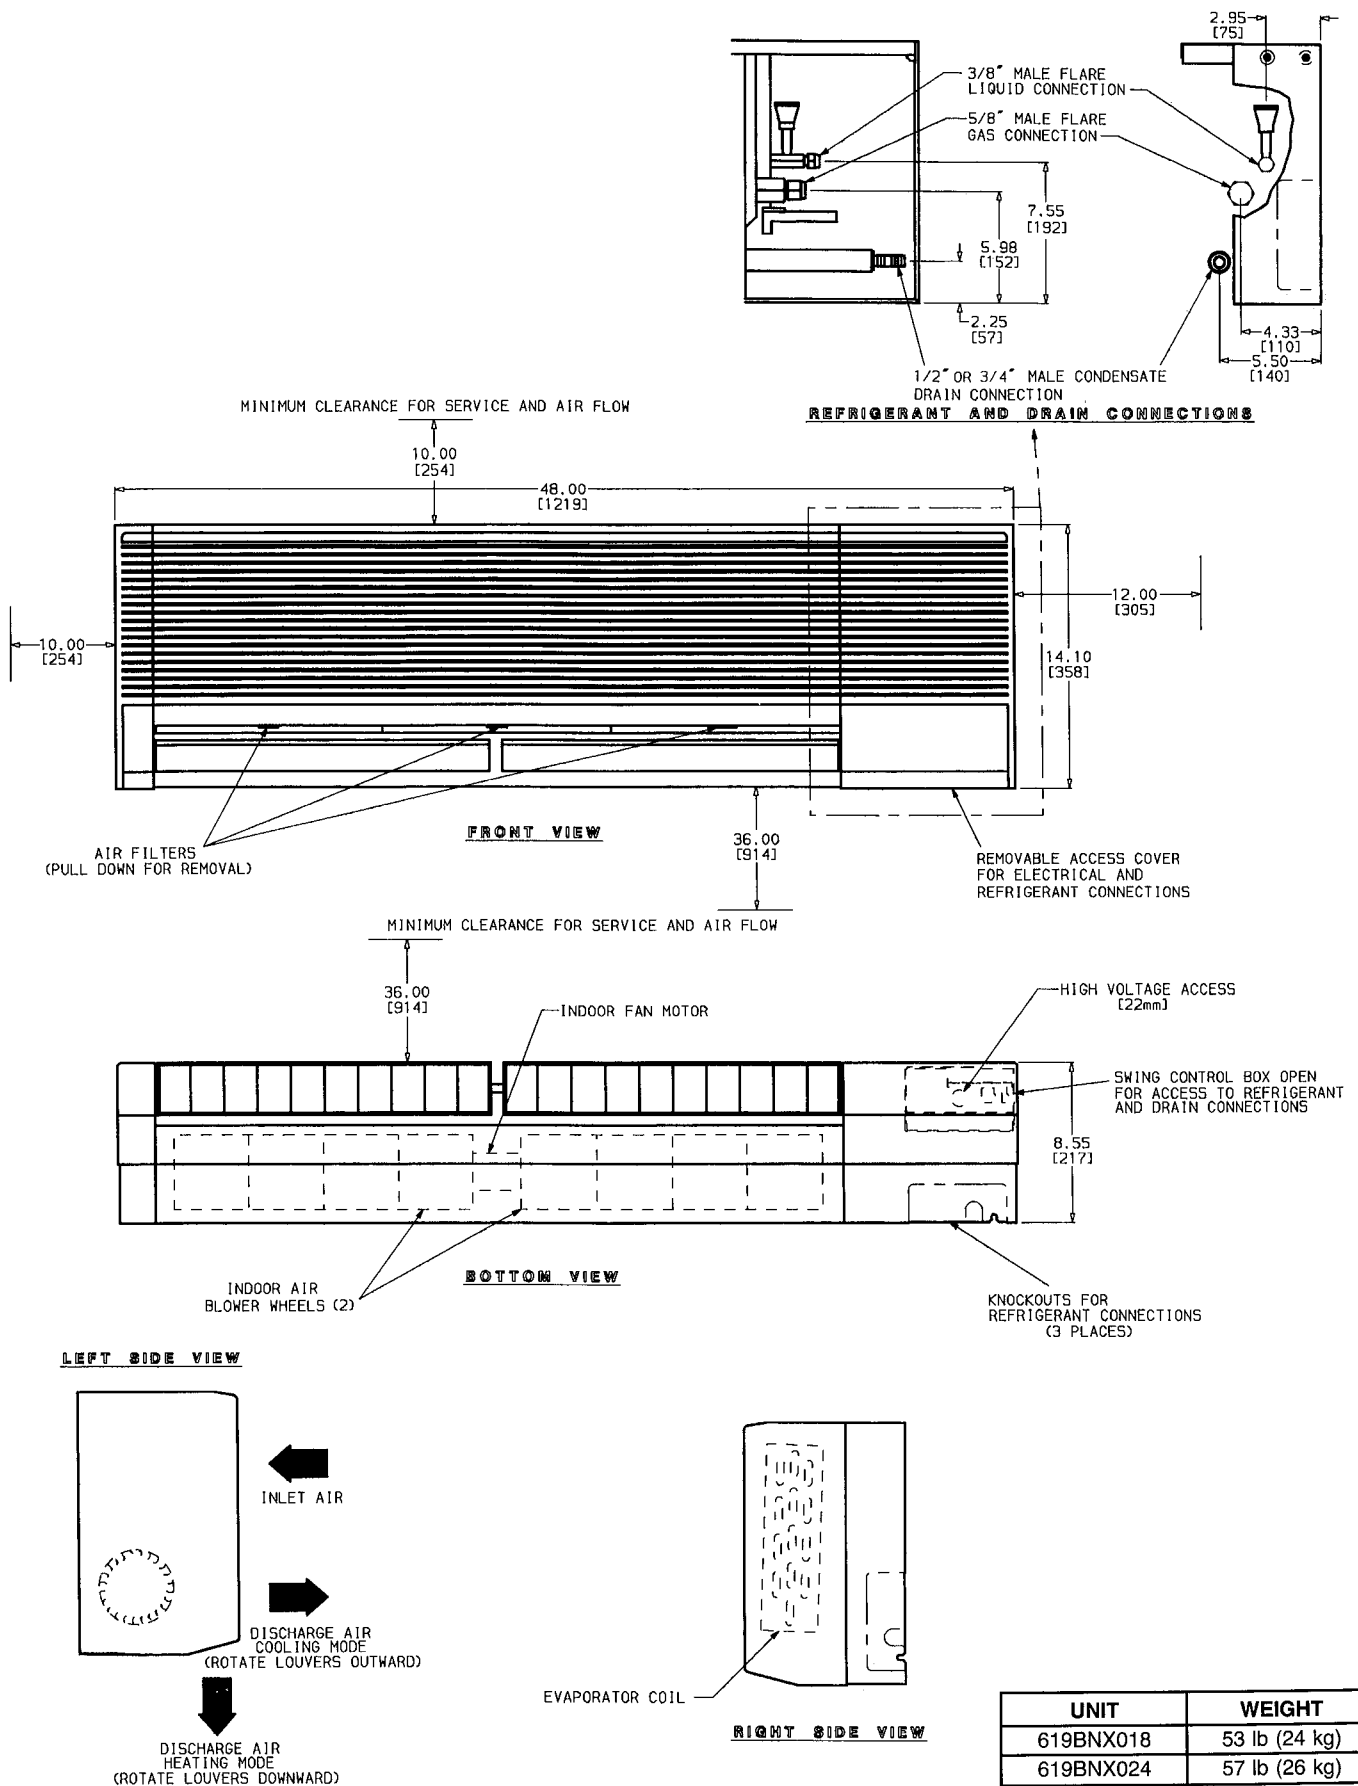
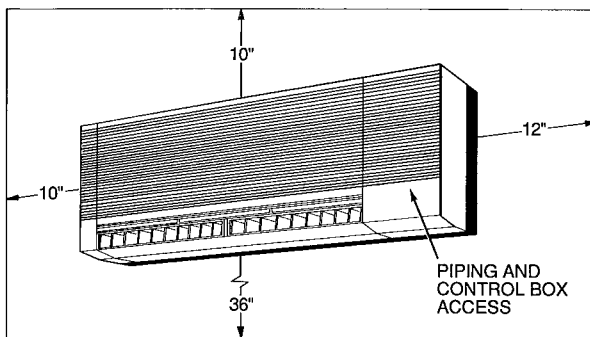

Fig. 2 – 619BNX018, 024 Dimensional Drawing
Fig. 3 — Minimum Required Clearances
There are several ways the unit may be installed to different types of wall construction. These instructions do not cover all installation methods. As a typical installation, these instructions focus primarily on mounting the unit to wall studs in new construction. See Fig. 2 for unit dimensions and Fig. 3 for required clearances. Plan your installation carefully before you begin. Listed below are some guidelines that should be followed when determining location for the unit.
3. Allow sufficient space for airflow clearance, wiring, refrigerant piping, and servicing unit. See Fig. 2 and 3.